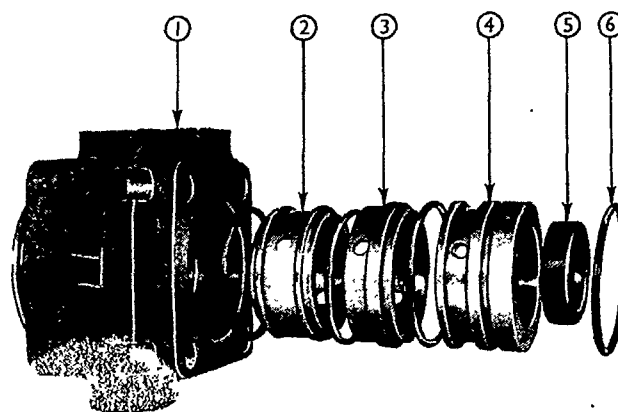

Figure 13
13. Remove the lower, centre and upper annular rings from the valve housing and renew all the "O" ring seals. See Figure 13.
15. Replace the "O" ring seals and annular rings in their correct order as shown in Figure 13.